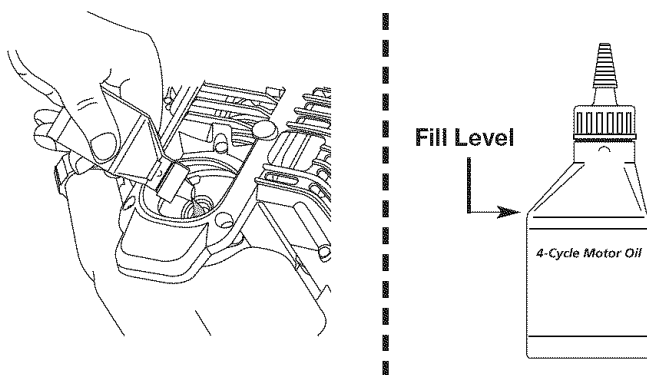

Fig. 22
**NOTE:** Use the bottle and spout saved from initial use to measure the correct amount of oil. The top of the label on the bottle measures approximately 3.04 ounces (90 ml) (Fig. 22). Check the level, See Checking the Oil Level. If the level is low, add a small amount of oil and recheck. Do not overfill (Fig. 22).